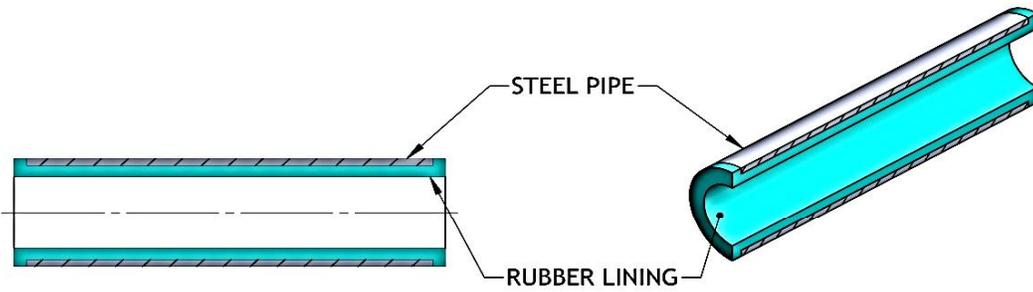
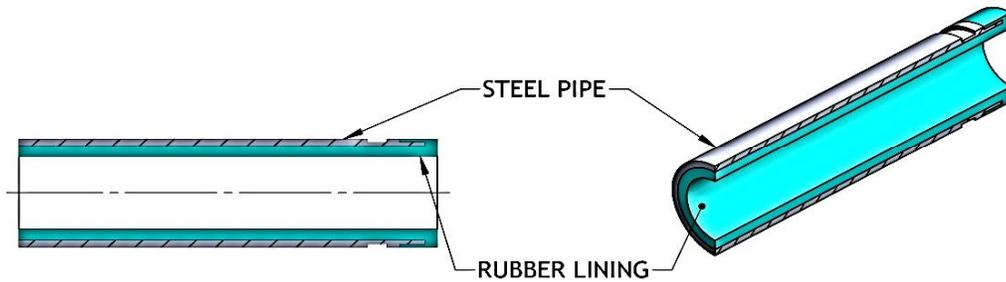

Fig. 8-6-1 Rubber lining construction for Victaulic pipe
Fig. 8-6-2 Rubber lining construction for Victaulic pipe
- 5.2 When using 1/8" through 1/4" linings the tube lining should be extended over the end of the pipe and bent back into the recess on the outside of the pipe. Apply a round of tape over the OD of outside rubber. After cure, remove the tape and buff the OD flush with OD of metal. See Fig. 8-6-1 and Fig. 8-6-2 for rubber lining constructions including single grooved pipe and double grooved pipe for Victaulic pipe.